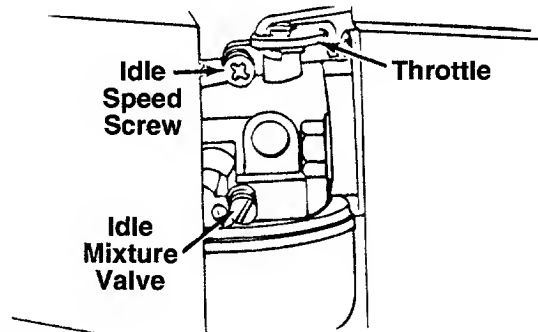

FIGURE 15.
- Close idle mixture valve (see figure 15) clockwise (↻) finger tight only. Forcing may cause damage. Then open 1-1/2 turns counterclockwise (↺).